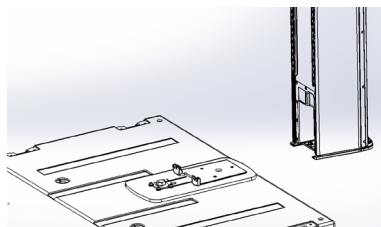

Figure 7 - Slide first AC6 to mount plate
- Slide into place (Figure 7). An audible clicking sound may be heard if pins are not in up position.